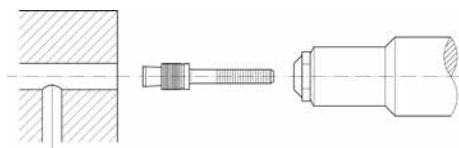

Fig. 1
- Insert the plug in the tool, making sure that the sleeve is against the nosepiece (Fig. 1).